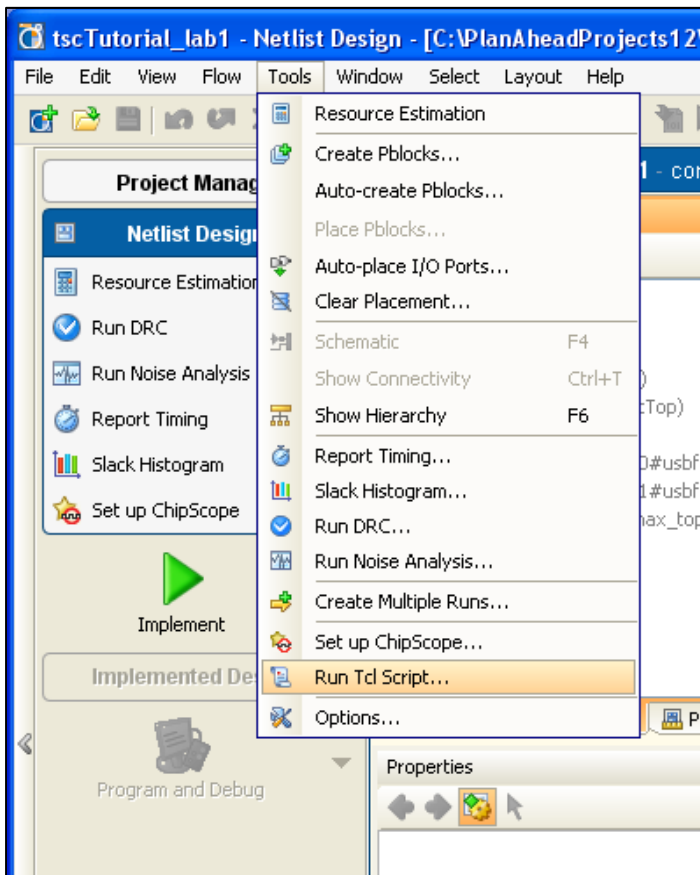

Figure 4: Launching the Run Tcl Script Dialog Box
- 3-1-2.** In the GUI, click **Tools > Run Tcl Script** to launch the Run Script dialog box as shown in Figure 4.